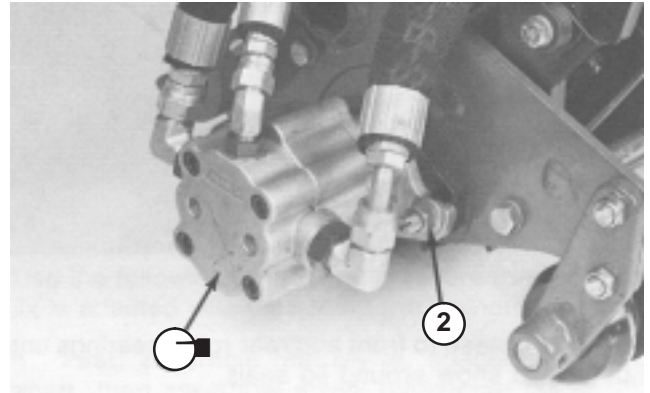

Figure 7
4. Assemble the mounting capscrews, lockwashers and washers for the reel drive motor to each dethatching unit (Fig. 7). Leave approximately 1/2” of threads exposed on each mounting bolt.